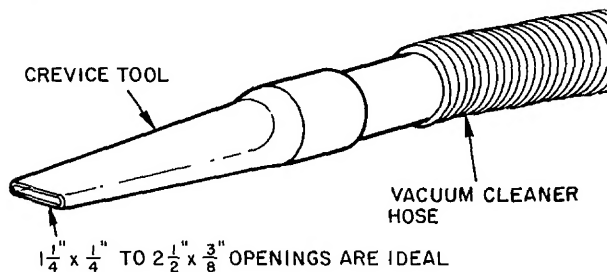

Fig. 17 — Crevice Cleaning Tool
3. Clean coil using vacuum cleaner and its crevice tool (see Fig. 17). Work crevice tool perpendicularly to coil tubes, making sure tool only touches dirt on fins. To prevent fin removal, do not "scrub" fins with tool or move tool parallel to coil tube configuration.